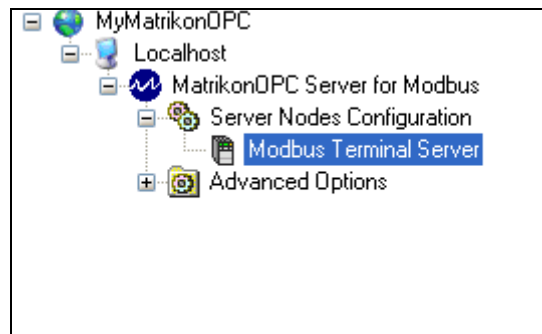

Figure 13 - New Modbus Terminal Server Node
6. Click on the **Create** button. The new item is created and appears as a child of the **Server Nodes Configuration** node in the navigation pane as shown in Figure 13.